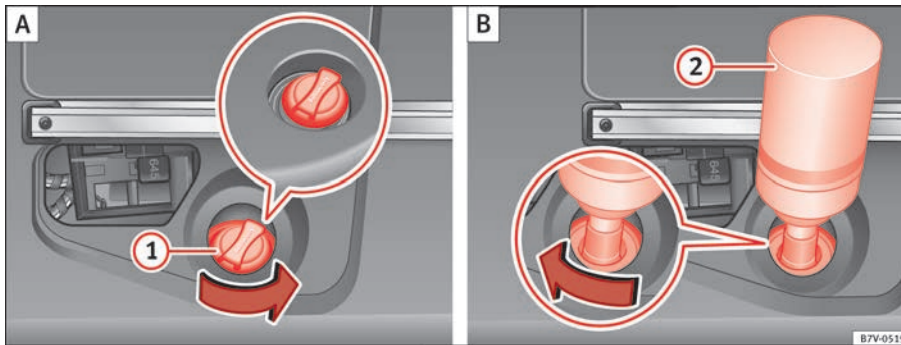

Fig. 165 AdBlue tank with filler neck cap and refilling bottle.
- Unscrew the tank filler neck cap ⇒ fig. 165 ① anticlockwise.